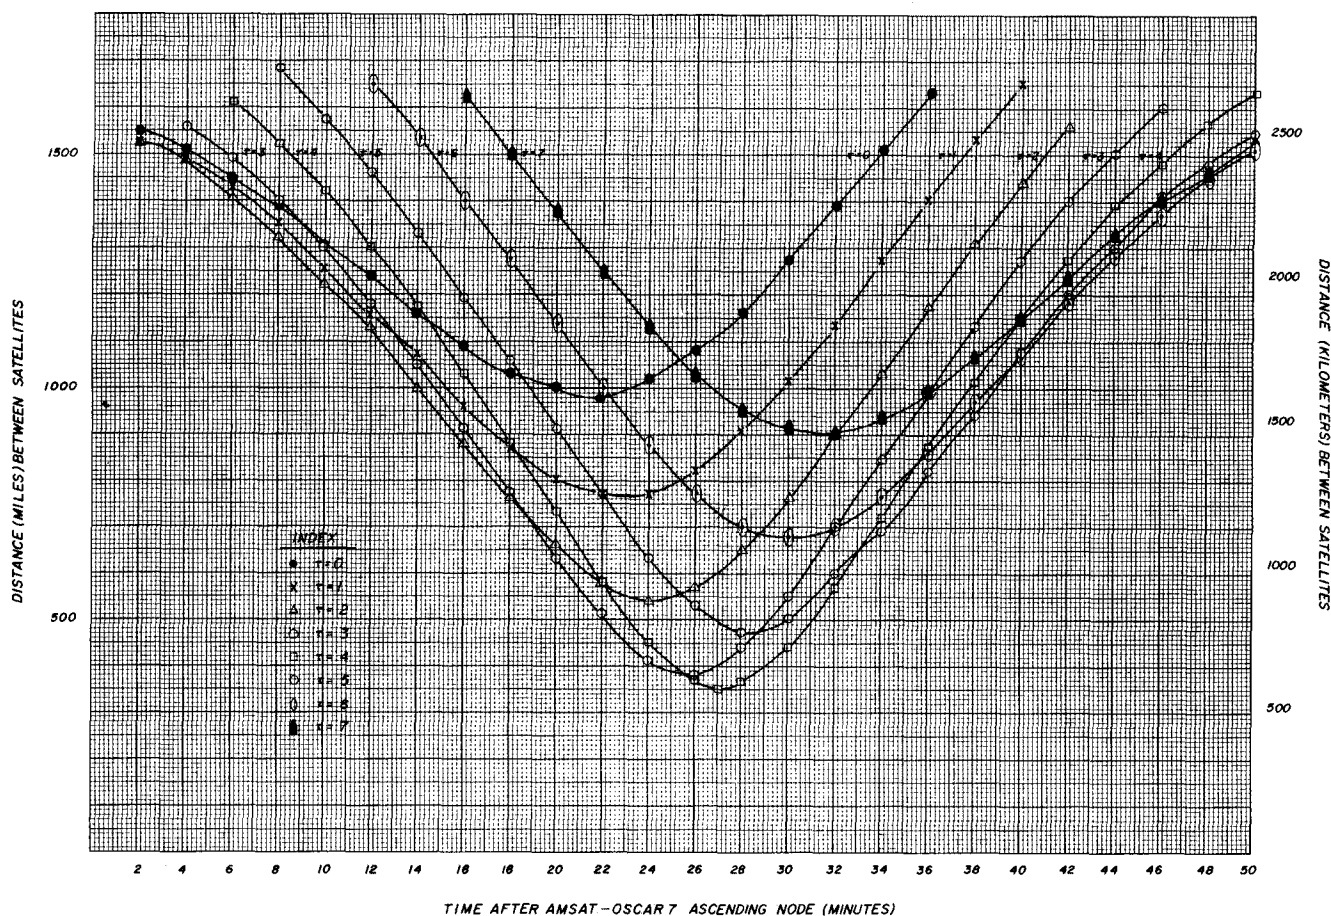

fig. 2. Close-encounter curves for Oscar 7 and Oscar 8, useful for 1979.
With Oscar 6 and Oscar 7 in similar orbits, close-encounter periods lasted a few weeks and were repeated on approximately a six-month schedule. The situation with Oscar 7 and Oscar 8 is quite different. Close encounters now last only part of an orbit, but they occur almost once a day. A given ground station is in range of only a small percentage of such close encounters. Since satellite separation distance is a critical factor in ESSE communications, stations seriously interested in experimenting with this mode need an accurate method of determining when close encounters will occur and what the separation distance will be. The goal of this article is to present a fast, simple method for obtaining this information. It involves the "close-encounter curves" shown in fig. 2. With these curves, Amateurs can select the best orbits (and sections of orbits) for linking experiments. The mathematical basis of close-encounter curves is described in the appendix.
The vertical axis of the close-encounter curve (fig. 2) represents the separation distance between AMSAT-Oscar 7 and AMSAT-Oscar 8. This informa-
tion is presented as a function of the elapsed time (in minutes) since the last Oscar 7 ascending node. Eight curves are shown in fig. 2. Each one is labeled by a parameter τ , which indicates the difference (in minutes) between the Oscar 7 and Oscar 8 ascending nodes. Our convention is to use positive values for τ when Oscar 8 crosses the equator *after* Oscar 7. For example, if an Oscar 7 ascending node occurs at 0141Z, and an Oscar 8 ascending node occurs at 0144Z, the curve labeled $\tau = 3$ applies; if both ascending nodes occur at the same time, the curve labeled $\tau = 0$ is used. Fractions of a minute should be rounded off. The following series of questions and answers best illustrate how the curves are interpreted.
A. Fig. 2 shows that the intersatellite distance approaches a minimum value on orbits when the Oscar 8 ascending node occurs about four minutes after the Oscar 7 ascending node. The point of closest approach will occur about 27 minutes after the Oscar 7 ascending node. You can also see that the separation distance is never less than 550 km, the difference in altitudes of the two spacecraft.
A. A station at 40 degrees north latitude has access to Oscar 7 only until 23 minutes after the ascending node (on an overhead pass). The station cannot access the satellite at the point of intersatellite closest approach. Looking at fig. 2 you can see that, beginning at 15 minutes after the Oscar 7 ascending node, the intersatellite distance becomes less than 1700 km when $\tau = 2, 3, \text{ or } 4$ minutes (Oscar 8 ascending nodes occurring 2, 3, or 4 minutes after the Oscar 7 node). The time slot between 15 and 23 minutes after the Oscar 7 node is the best window. We've arbitrarily chosen 1700 km as our cutoff point because signals will be down 10 dB relative to 550 km (absolute closest approach) due to $1/r^2$ path losses.
Each ground station using close-encounter curves will find it convenient to shade in the area during which access to Oscar 7 is not possible. For example, a station at 40 degrees north latitude would shade in the region between 23 minutes and 35 minutes on fig. 2.
A. It's hard to say. Fig. 2 shows that, during 1979, the evening orbits provide shorter intersatellite distances. Other factors, however, such as the normally lower transponder loading early in the day, might lead to better results on morning orbits. For morning passes, a station at 40 degrees north latitude would select orbits with $\tau = 4, 5, \text{ or } 6$ and concentrate on times between about 35 and 40 minutes past the Oscar 7 ascending node.
Q. Over what period of time can fig. 2 be used?
A. If the relative orientation of the Oscar 7 and Oscar 8 orbital planes remained constant, fig. 2 could be used indefinitely. Because there is a slight drift in the relative orientation of these planes, a graph like the one shown in fig. 2 must be drawn for a specific date. In this case, the predicted positions of the orbital planes for July 1, 1979, were used. The drift, however, is so slow that fig. 2 will provide reasonably good results (within one minute or 200 km) for all of 1979.